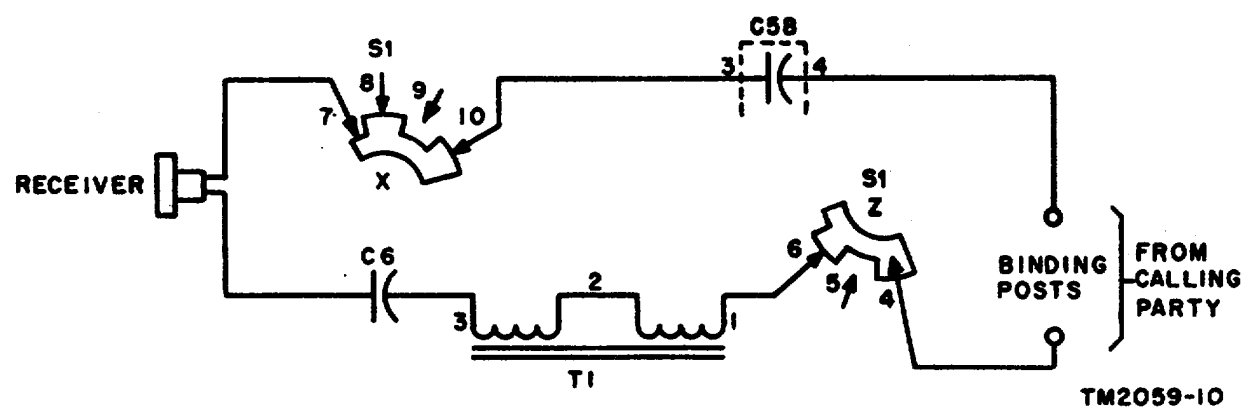

Figure 8. Receiving circuit without amplification, simplified schematic diagram.
37. Receiving Circuit Without Amplification (fig. 8)